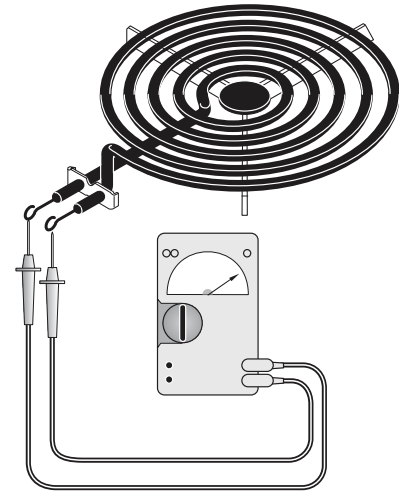

Figure 1
3. Set ohmmeter to R X 10 scale and attach meter leads to element. A low OHMS reading (continuity) should be indicated, and this reading may vary slightly on each element tested. If infinite OHMS (open) is indicated, element must be replaced (See Figure 1).